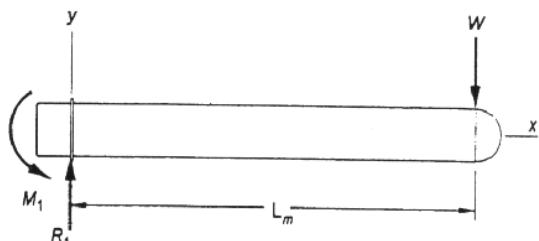
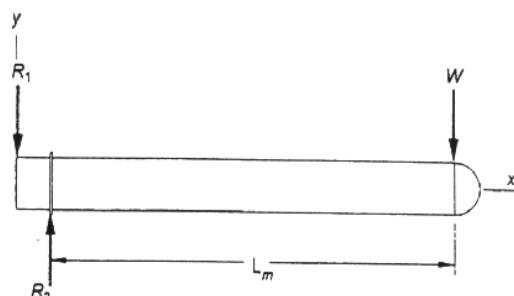
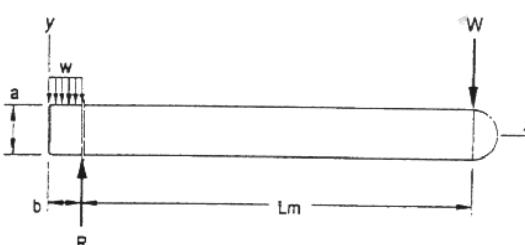

FIGURE 4-27A
FIGURE 4-27B
FIGURE 4-27C
1. In Problem 3-27, we were concerned only with the portion of the mandrel outside of the stanchion. Therefore, we modeled it as a cantilever beam with a shear and moment reaction at the stanchion. Unfortunately, this tells us nothing about the stress or force distributions in the portion of the mandrel that is inside the stanchion. To do this we need to modify the model by replacing the concentrated moment (and possibly the concentrated shear force) with a force system that will yield information about the stress distribution in the mandrel on that portion that is inside the stanchion. Figure 4-27A shows the FBD used in Problem 3-27. Figure 4-27B is a simple model, but is not representative of a built-in condition. It would be appropriate if the hole in the stanchion did not fit tightly around the mandrel. Figure 4-27C is an improvement that will do for our analysis.
3. From inspection of Figure 4-27C, write the load function equation